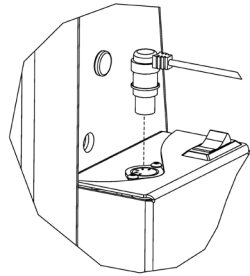

Figure 4-13
9. Plug hand controller into lift. **See Figure 4-13.**